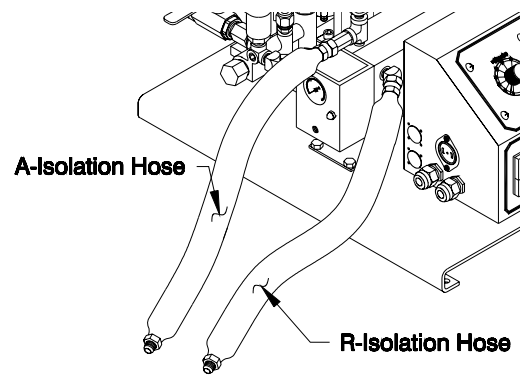

Figure 9. Isolation Hoses
1. Connect the isolation hoses to their respective primary heater outlet fittings (see Figure 9).